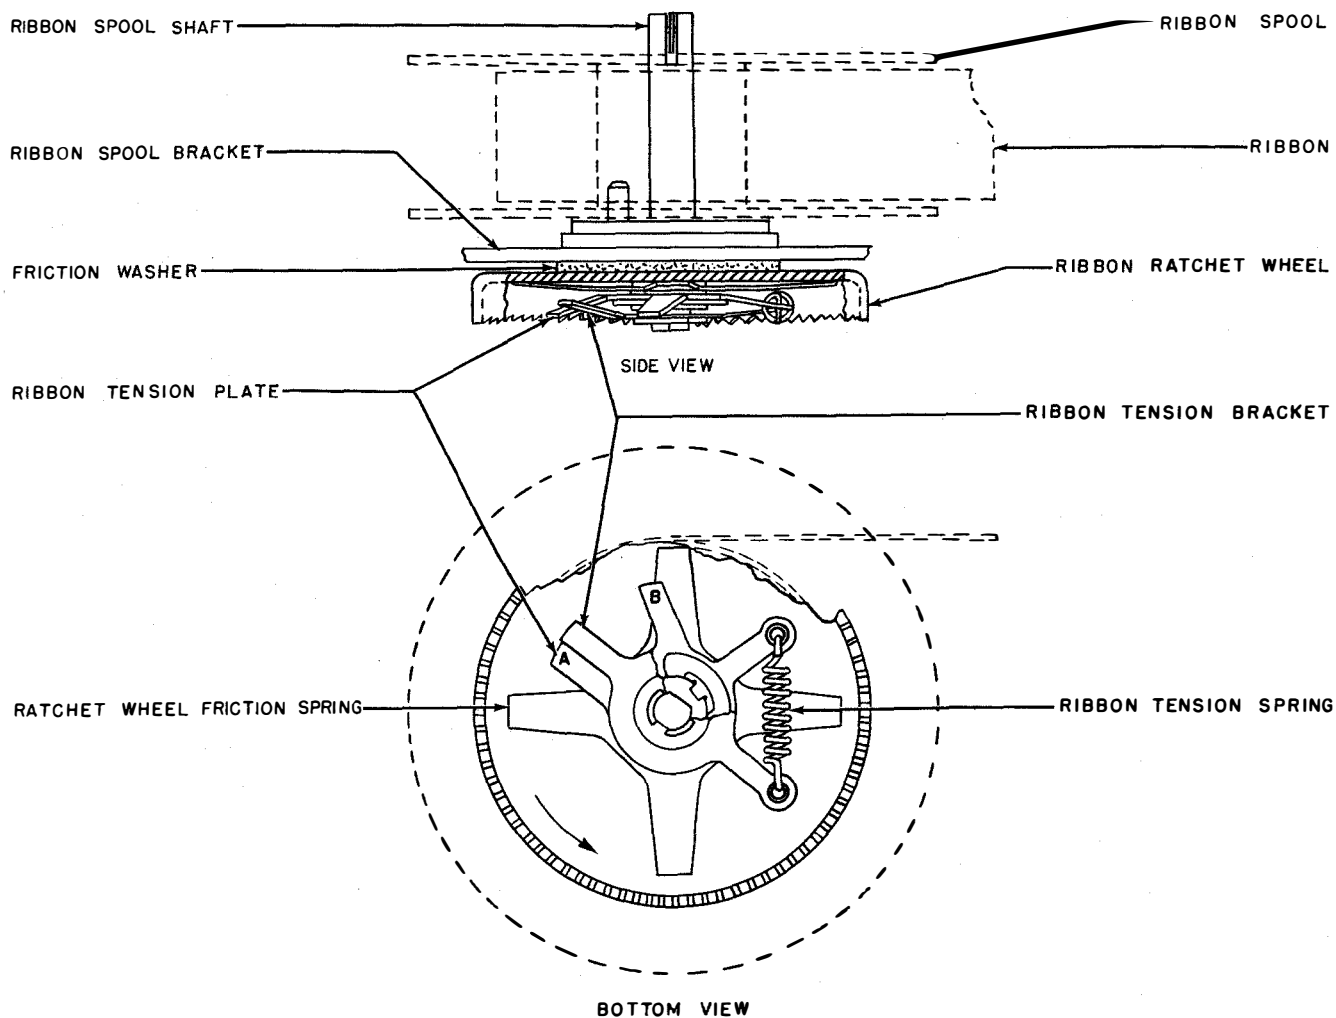
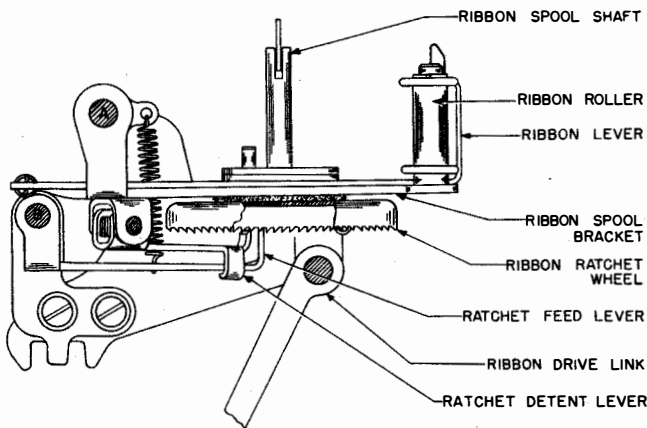
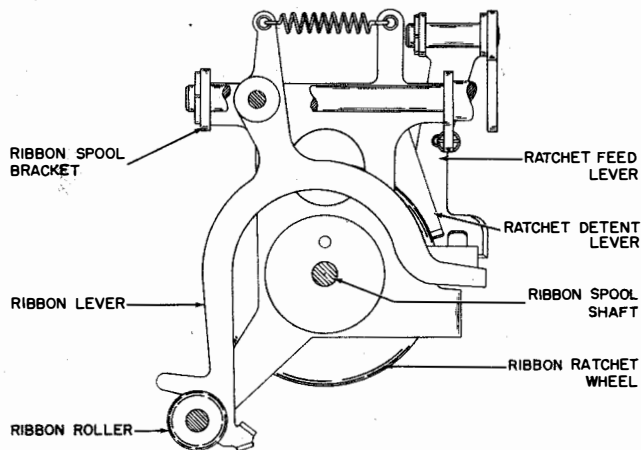
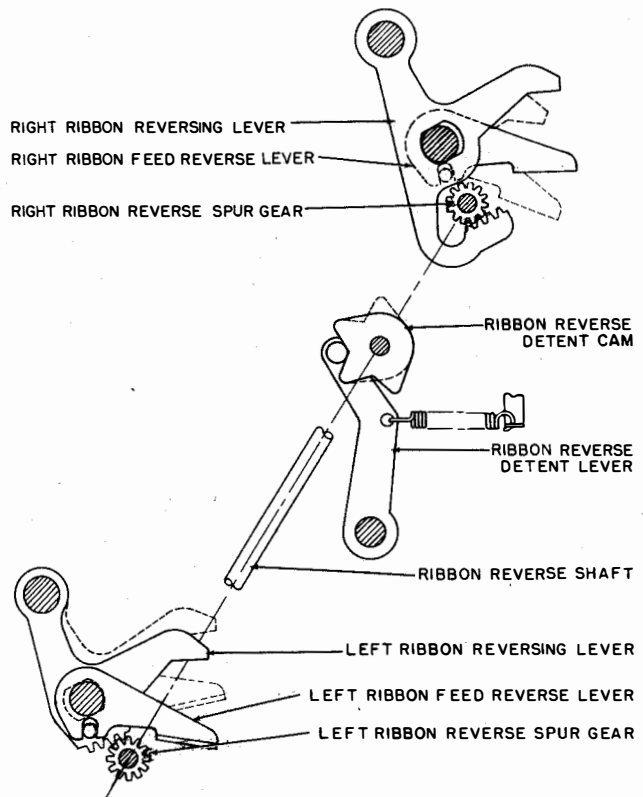

Figure 2-53. Ribbon Tension Mechanism
Figure 2-54. Ribbon Mechanism, Left Side
Figure 2-55. Ribbon Mechanism, Left Top View
Figure 2-56. Ribbon Reversing Mechanism
(1) POSITIONING.—The left and right ribbon feed mechanisms oscillate in a vertical plane with each revolution of the type box clutch. They are driven by ribbon drive links which are attached to the main side levers (figure 2-54). At their uppermost position, the ribbon mechanisms position the ribbon relative to the line which is being printed. After each character is printed, the ribbon mechanisms are dropped downward together with the type box, in order that the last character printed may be viewed. The ribbon is held in place at the point of printing by a ribbon guide which is fastened to the rear of the type box carriage.
(2) FEEDING.—Each of the ribbon mechanisms consists of a bracket which is hinged at its rear end, and upon which is mounted a ribbon spool shaft (figures 2-53 and 2-54). A ribbon tension bracket is keyed to the lower end of the ribbon spool shaft. A ribbon ratchet wheel is mounted freely on the ribbon spool shaft just below the ribbon spool bracket from which it is separated by a friction washer. The ratchet wheel friction spring on the under side of the ribbon ratchet wheel causes the ratchet wheel to bear against the felt friction washer. This applies a constant drag to the ratchet wheel. A ribbon tension plate which is keyed to the
hub of the ribbon ratchet wheel has two projecting lugs (A and B in figure 2-53) that straddle the lug on the ribbon tension bracket. A ribbon tension spring tends to maintain the ribbon tension bracket against lug A of the ribbon tension plate. In operation the ribbon spool bracket, driven by the ribbon drive link, pivots about point A in figure 2-54. The ratchet feed and ratchet detent levers pivot about points B and C respectively, and are held against the saw tooth shaped teeth on the ribbon ratchet wheel by their springs. As the ribbon spool bracket is moved upward, the ratchet wheel feed lever skips over one tooth, while the ratchet detent lever holds the ribbon ratchet wheel from turning backward. When the ribbon spool bracket is moved downward, the ratchet feed lever engages a ratchet tooth and pushes the ratchet wheel. A tooth on the ribbon ratchet wheel then skips over the ratchet detent lever. The teeth on the left and right ribbon ratchet wheels face in opposite directions so that, when their feed levers are engaged, the left ribbon ratchet wheel turns clockwise, and the right ribbon ratchet wheel turns counterclockwise (viewed from the top). In order for the ribbon to be pulled from one ribbon spool to the other, only one of the ribbon mechanisms can have its ratchet feed and ratchet detent levers engaged with its ribbon ratchet
wheel at a time. As the ribbon ratchet wheel turns (figure 2-53), the ribbon tension plate also turns, and extends the ribbon tension spring. When the lug B of the ribbon tension plate makes contact with the ribbon tension bracket, the ribbon spool shaft is made to turn and the ribbon is thus wound on the ribbon spool. When the ribbon has become completely unwound from one spool, it is necessary to reverse its direction so it can rewind. This is accomplished automatically by disengaging one set of ratchet feed and ratchet detent levers and engaging the other set. While the ribbon is passing from the left spool to the right spool, the right set of levers are engaged. The left set are held disengaged against the tension of their springs by the left ribbon feed reverse lever which is in its downward position (figure 2-56). The lever is held in this position by means of the ribbon reverse detent lever through the intervening ribbon reverse detent cam, ribbon reverse
shaft and ribbon reverse spur gear. As the ribbon unwinds from the ribbon spool, it passes around the ribbon roller (figure 2-55) and through the slot in the end of the ribbon lever. When the ribbon nears its end on the ribbon spool, an eyelet which is fastened to the ribbon, catches in the ribbon lever slot and pulls the lever toward the right. The next time the ribbon mechanism is moved upward, the displaced ribbon lever engages the end of the left ribbon reversing lever and causes it to move to the dashed position shown in figure 2-56. As the lever moves, its teeth rotate the left spur gear which, through the ribbon reverse shaft, turns the detent cam and the right spur gear. As the right spur gear moves the right ribbon reversing lever downward, a pin on the lever drives the right ribbon feed reverse lever downward to disengage the ratchet feed and ratchet detent levers from the right ribbon ratchet wheel. At the same time a pin on the left ribbon reversing lever moves the
left ribbon feed reverse lever upward to permit the left ratchet feed and ratchet detent levers to engage the left ribbon ratchet wheel. Thus, the ribbon mechanisms are positioned to rewind the ribbon on the left ribbon spool. When it nears its end on the right ribbon spool, the ribbon is again reversed in a manner similar to that just described. During the reversing cycle the ribbon is maintained taut by the previously extended ribbon tension spring (figure 2-53).